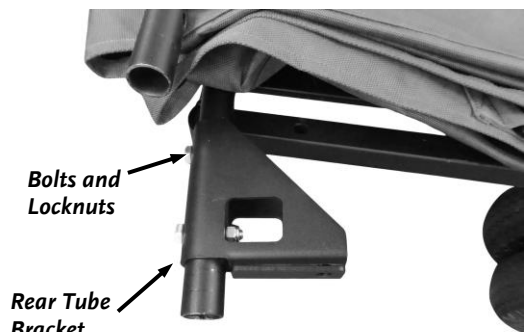

Figure 32
11. At the rear of the Enclosure, position the Rear Tube Bracket on the top Tube as shown and secure loosely with two Bolts and Locknuts using two 1/2" Wrenches (**Figure 32**). Do not fully tighten. Ensure fabric doesn't get pinched under the Bracket.